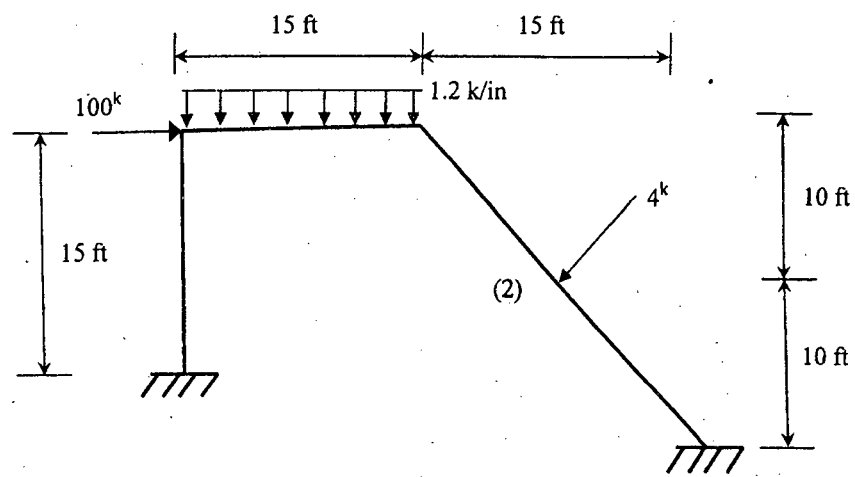

Fig. 3
(b) Calculate deformation of the unrestrained degrees of freedom of the plane frame shown in Fig. 3. Use stiffness method. Ignore axial deformation. Given, $EI = 10,000 \text{ k-in}^2$. (20)